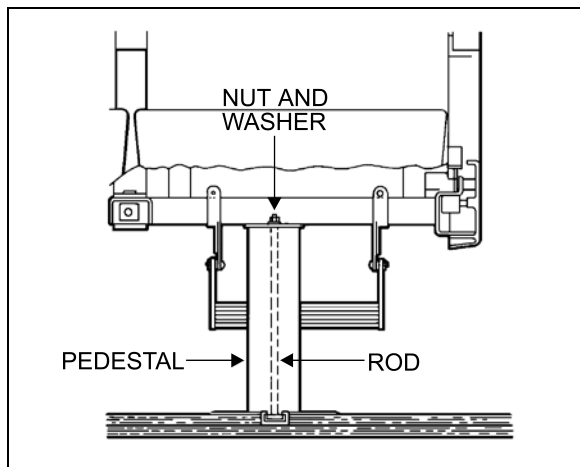

FIGURE 37: SEAT PEDESTAL ASSEMBLY 18107
4. Remove 2 cap screws, nuts, and washers holding seat frame to side wall and retain the 2 holding brackets. See Figure 36 and Figure 37.